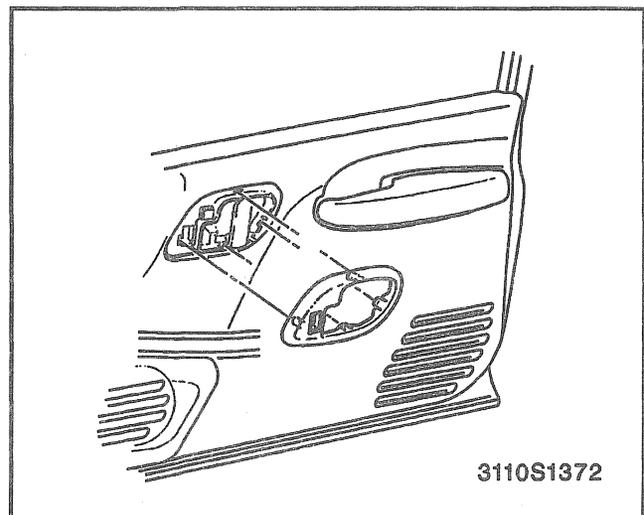

Figure 3—Front Door Inside Handle Bezel
←→ Remove or Disconnect (Figure 3)
- B. Carefully bend retaining clips outward while pulling out bezel. Refer to arrows shown in Figure 3.
→← Install or Connect (Figure 3)